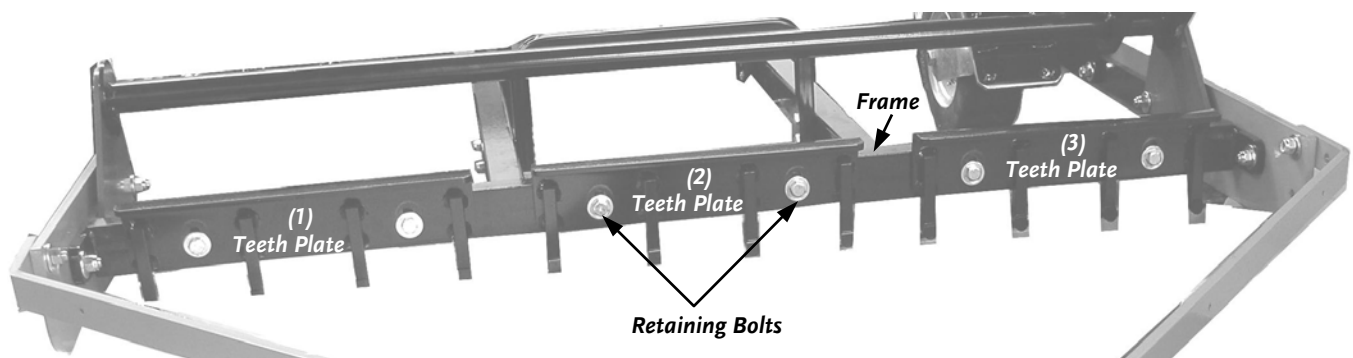

Figure 12
2. Using two (2) 9/16" Wrenches, loosen and remove the two (2) Retaining Bolts on each Scarifying Teeth Plate (**Figure 12**).
NOTE: The 60" Model has four (4) sets of Scarifying Teeth Plates (48" Model shown in **Figure 12**).
3. Turn the Scarifying Teeth Plates over and reinstall with the mounting hardware as shown in **Figure 12**.
NOTE: The Scarifying Teeth Plates should be parallel to the frame when finished (**Figure 12**).